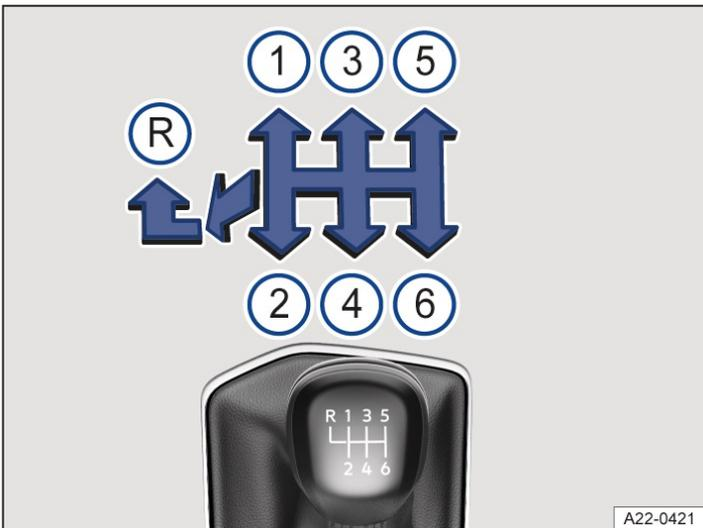

Fig. 1 Gear shift pattern of a 6-speed manual gearbox. Depending on the equipment level, your vehicle may have a 5-speed manual gearbox.
2. Move the gear lever to the required position → Fig. 1 1.
3. Push the gear lever fully to the left and then forwards into the reverse gear position → Fig. 1 R.